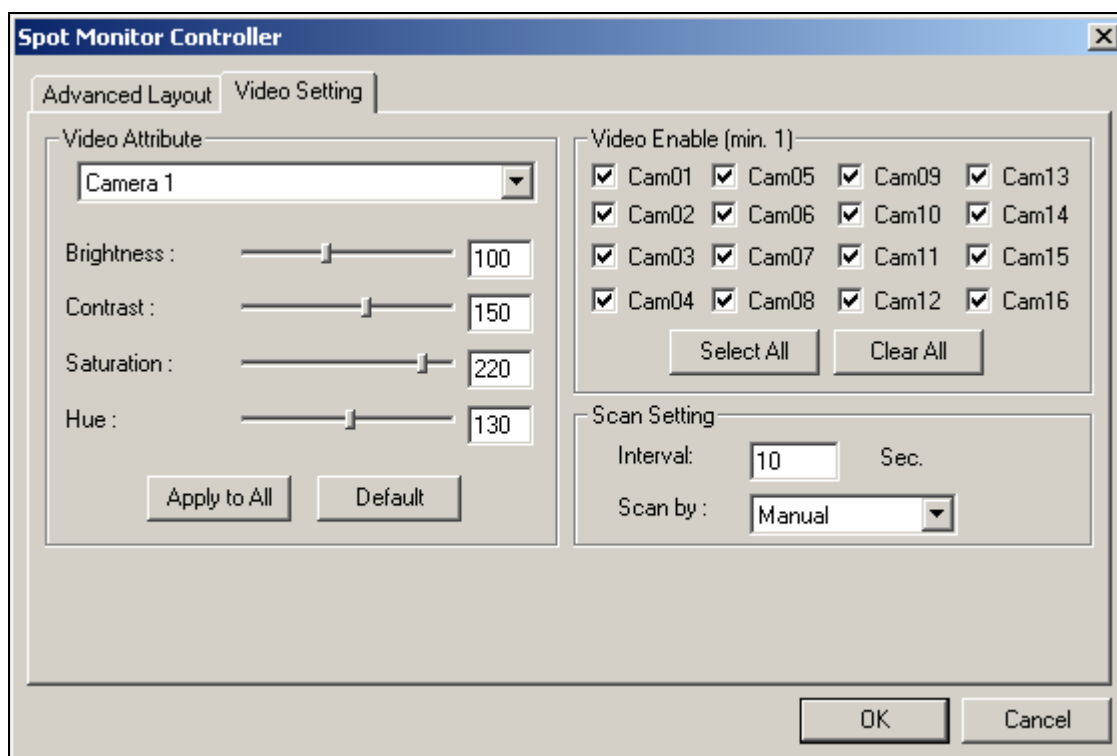

Figure 1-92
- **Right Arrow button:** Sets the channel sequence of each scanned page (see *Scan Setting* on Figure 1-92). Click the button to display this dialog box.